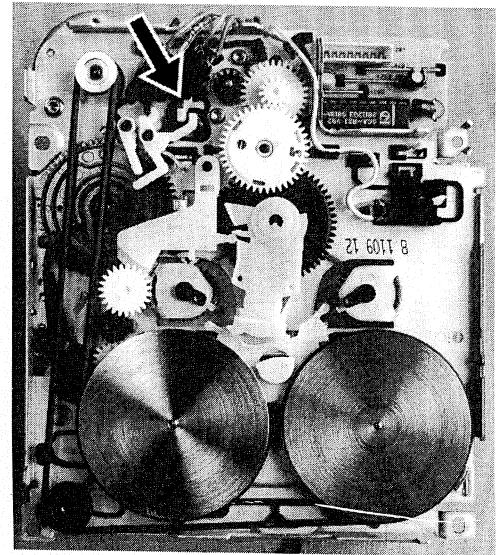

Figure 2
At that moment, the servo motor stops and the deck is in 'Standby' position. Refer to fig. 2, especially to the 'Standby' switch position.
The capstan motor now starts turning clockwise so that the transport disc assy is coupled again; the transport disc turns until both the standby- and play switches are open (refer to fig. 2). During the transport disc rotation, the coupling assy (pos. 65 and 70) and gear rod pos. 54 are coupled again to the servo motor and the swivel lever is disabled from the take-up wheel.
Refer to figure 2.